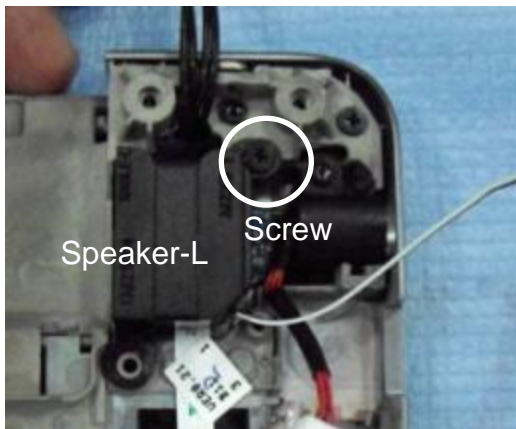

Fig.3
3. Loosen screw (6052A0035101) * 1, take out the speaker - L (6039B0058701). (Fig.3)